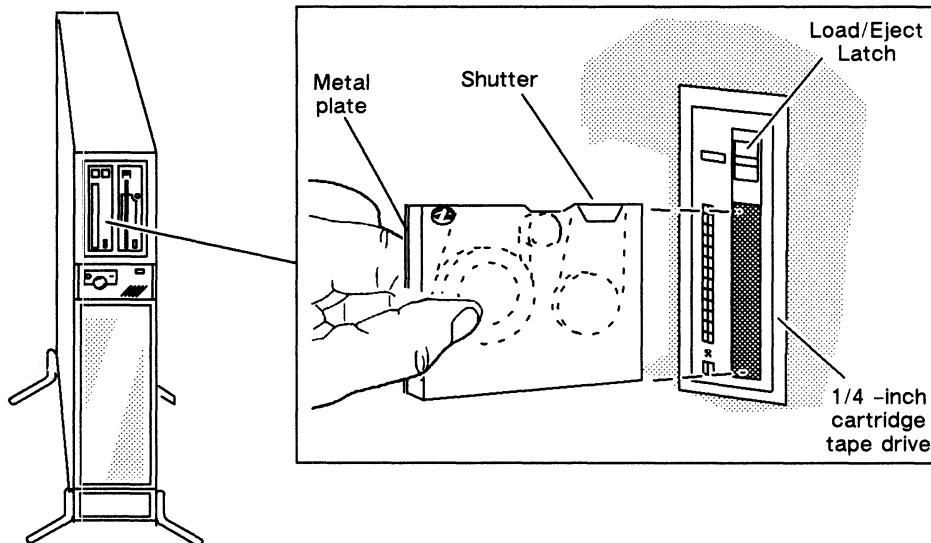

Figure 1-11 Inserting QIC Tape into an Internal Drive
3. Hold the cartridge tape with the metal plate facing left and the shutter on top, as shown in Figure 1-11.